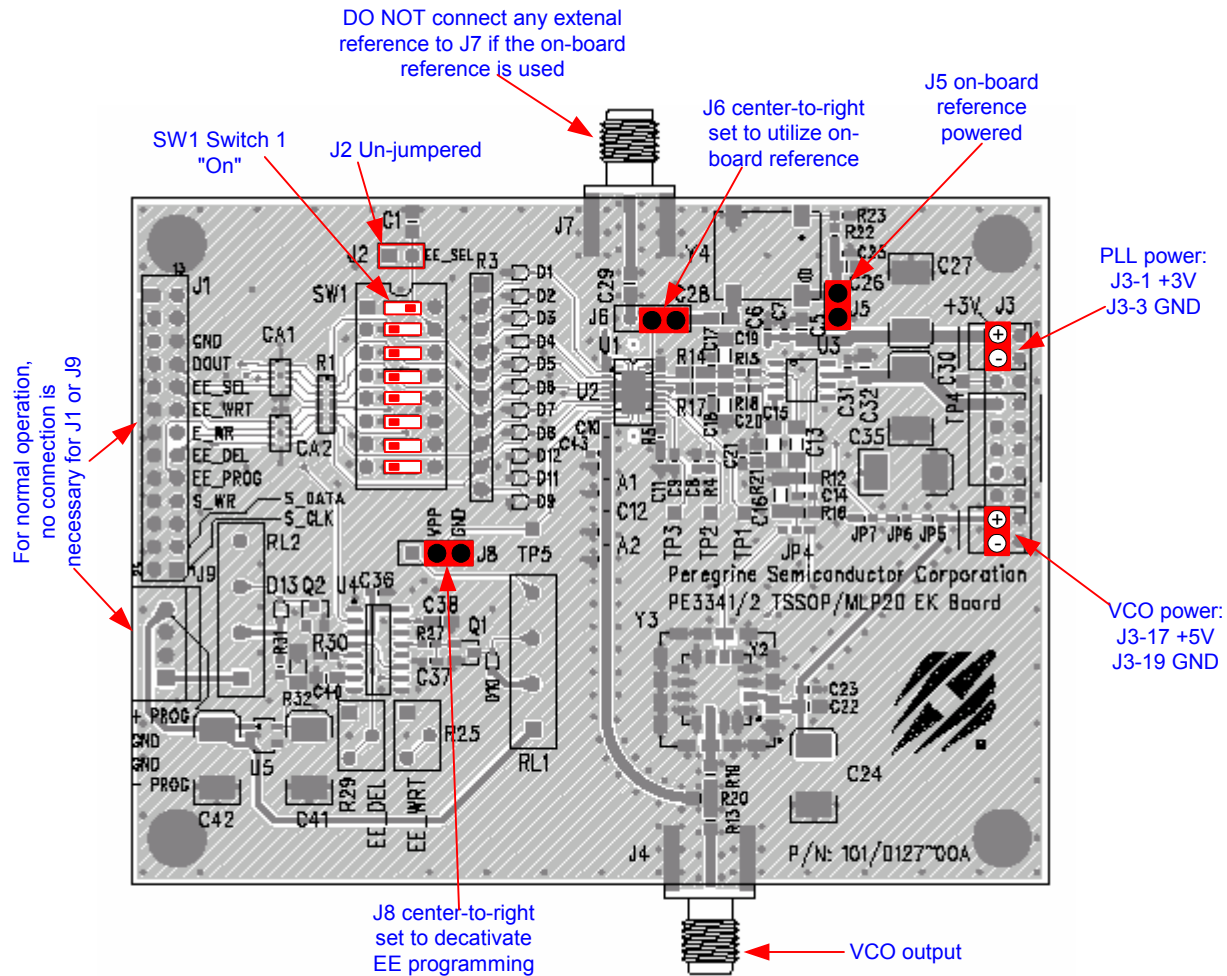
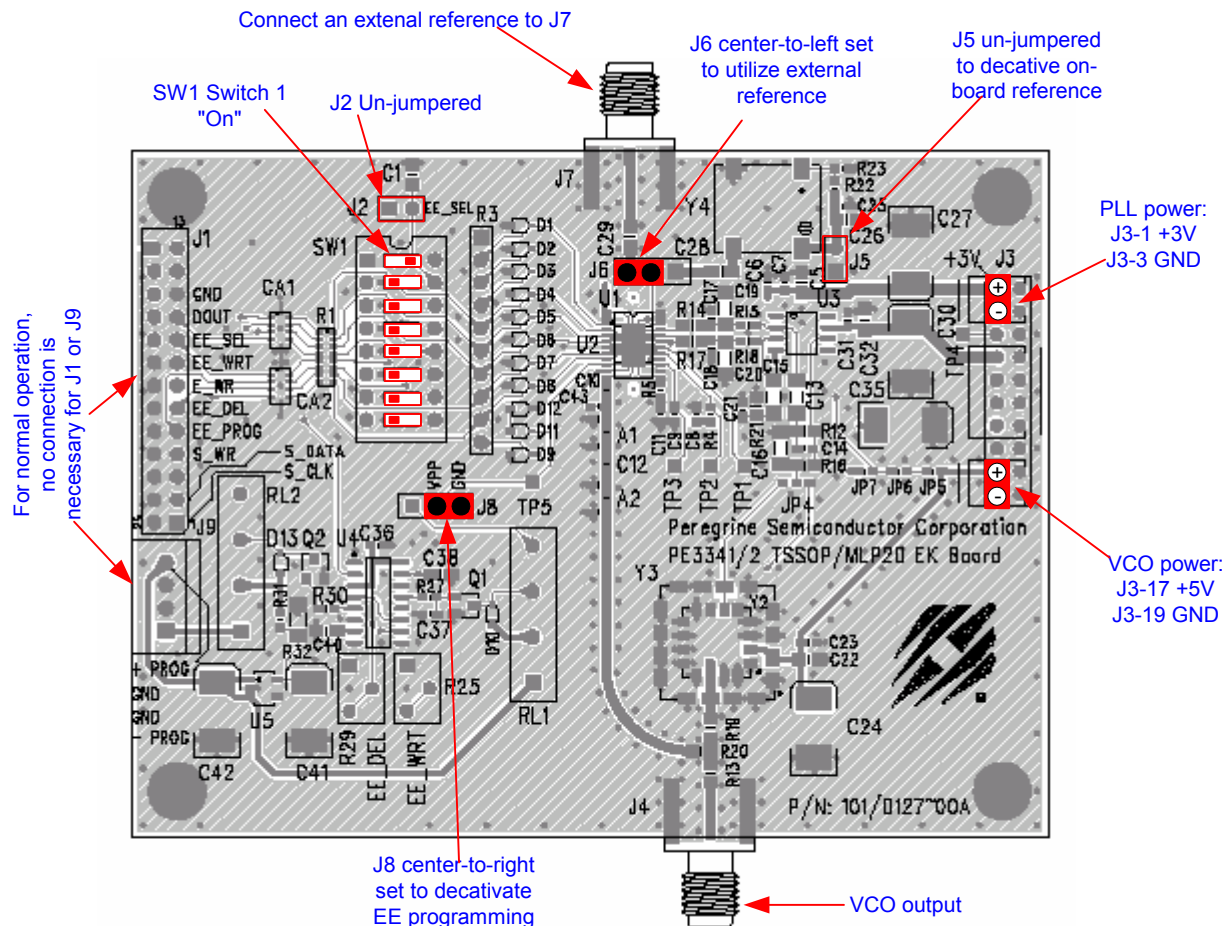

Figure 1. Evaluation Kit Default Jumper & Switch Settings Using on-board Reference.
Figure 2. Jumper Setting to Use an External Reference
The PE3341 Evaluation Board is configured with an on-board VCO, TCXO reference and a second order passive loop filter. For the standard evaluation kit, the VCO tuning range is 2500 MHz to 2670 MHz for a tuning voltage 0.5 to 4.5 volts. However, the maximum charge pump operable voltage range of the PE3341 is 0.5 to 2.5 volts. Its optimum range is 1 to 2 volts which corresponding an optimum operating frequency range 2520 to 2570 MHz. The reference oscillator is 20 MHz. The passive loop filter is designed for a 1 MHz comparison frequency and a 2540 MHz output frequency with unity gain crossover at 45 kHz, phase margin of 65 degrees and 1.2 dB of peaking. Unless noted, the data provided was measured in this configuration with the default jumper settings shown in Figure 1.
Two jumpers (J5 & J6) configure the Evaluation Board to operate with either the on-board reference oscillator (TCXO) or an external reference applied to J7. Figure 1 shows the proper configuration for utilizing the on-board TCXO reference. J6 in the middle-to-right connection as shown connects the output of the TCXO to the PLL f_r input, while J5 installed provides power to the TCXO. Do not connect any external reference to J7 if the on-board reference is selected. To use an external reference, place J6 in the middle-to-left connection which connects the PLL f_r input to the J7 SMA connector and remove the jumper on J5 to power-down the TCXO. Figure 2 shows the configuration of using an external reference.
The default jumper and switch settings are shown in Figure 1, which place the part into EEPROM mode utilizing the on-board reference. Peregrine Semiconductor recommends that the default settings be used initially to bring up the evaluation board and duplicate the enclosed measured data.
1. Verify a jumper is placed on the connector J5 and REF Selector (J6) is positioned in the middle-to-right connection to select the on-board reference as shown in Figure 1.
4. Connect power supply cable to the Evaluation Kit board as shown in Figure 1. Note that the red connector of the power cable is always the positive and the black connector is ground in a 2-wire cable or the negative in a 4-wire cable.